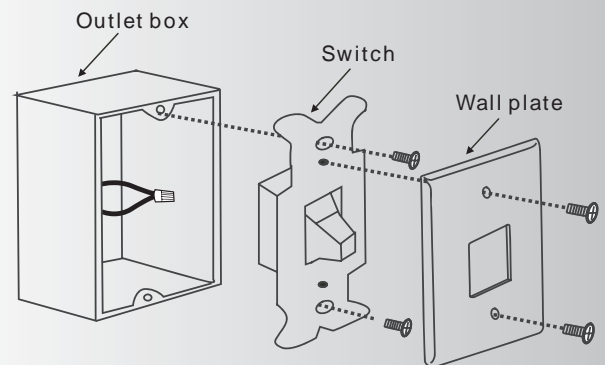

Fig. 25
Step 1. Remove the existing wall plate and the old switch from the wall outlet box. Wire nut the BLACK leads (hot) together and push back inside the outlet box. (Fig. 25)